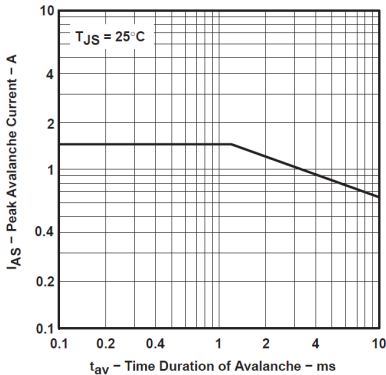

图 5-1. Peak Avalanche Current vs. Time Duration of Avalanche
- (1) Operation outside the Absolute Maximum Ratings may cause permanent device damage. Absolute Maximum Ratings do not imply functional operation of the device at these or any other conditions beyond those listed under *Recommended Operating Conditions*. If used outside the Recommended Operating Conditions but within the Absolute Maximum Ratings, the device may not be fully functional, and this may affect device reliability, functionality, performance, and shorten the device lifetime.
- (2) All voltage values are with respect to network ground terminal GND.
- (3) Pulse duration $\leq 100\mu\text{s}$, duty cycle $\leq 2\%$
- (4) DRAIN supply voltage = 15V, starting junction temperature (T_{JS}) = 25°C , $L = 100\text{mH}$, $I_{AS} = 1\text{A}$ (see 図 5-1).
- (5) See Dissipation Table